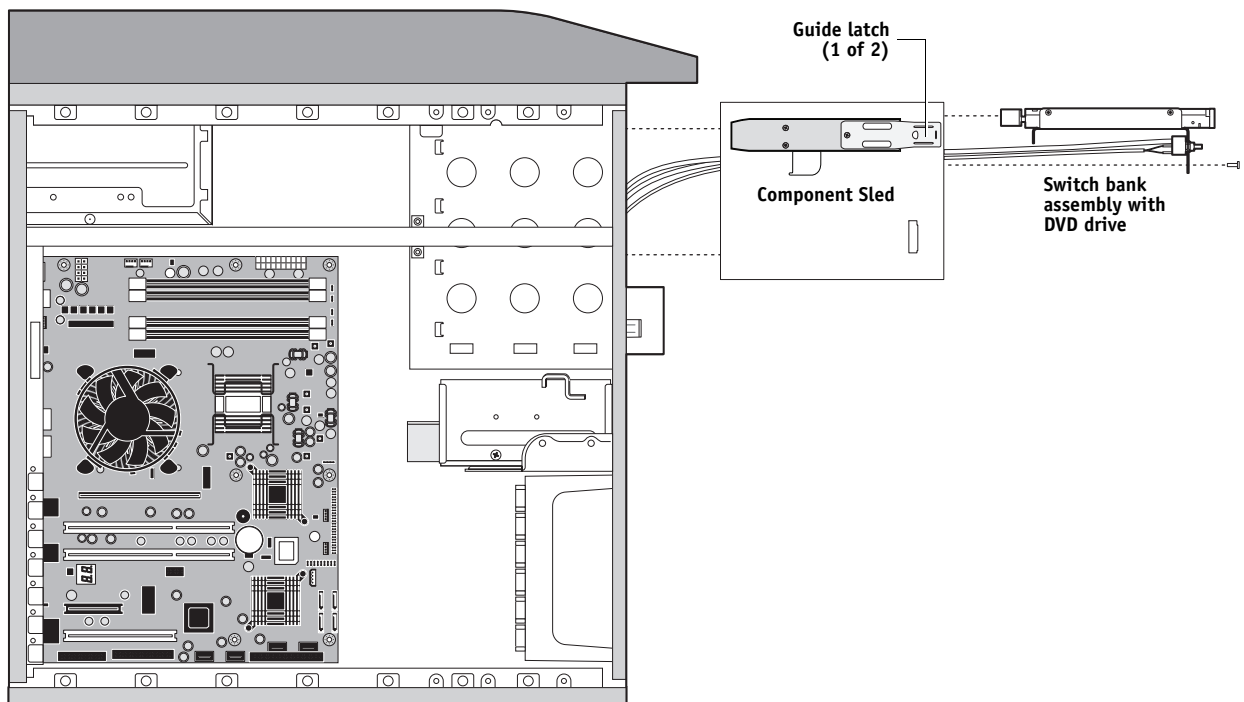

FIGURE 33: Component Sled with switch bank assembly
4. Unharness the cables from the cable clamp(s) and tie-wraps inside the chassis.**5. Remove the Component Sled from the chassis (see Figure 33 on page 92).**